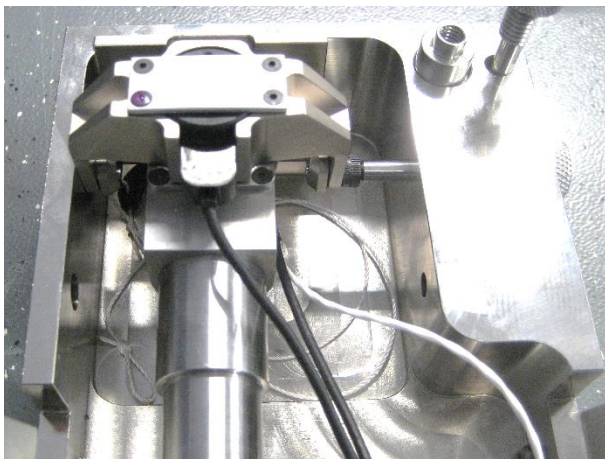

Figure 2 IF-367, IF-368, IF-371: use short Centre Pin
- Place the 2D IR-TRACC assembly on the Reference Fixture part # 11220 with potentiometer facing up according Figure 2.
- On IF-367, IF-368 & IF 371 use the short Centre Pin (Figure 2 Left).
- On IF-372 use the Spacer and the long Centre Pin (Figure 2 Right). Secure the spacer with an M6x10 Flat Head Countersunk Screw. Push the IRTRAVV bracket pivot hole on the spacer spigot. Screw in the long Centre Pin on the opposite side into the fixture and align the spigot with the pivot hole of the IRTRACC bracket. Hand tighten the Centre Pin. Check there is no play and the bracket is flush with the spacer.